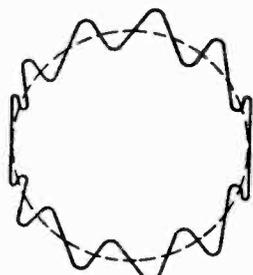
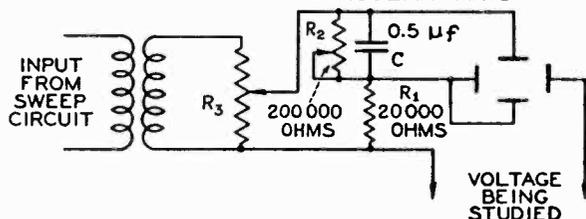

Figure 24
Figure 28
For an ellipse, a phase-splitting device as shown in Figure 28 is employed. Resistance (R_1) is connected across one set of deflecting plates and capacitance (C) is connected across the other pair. With R_1 at maximum resistance the phase shift is almost 90 degrees. As R_1 is decreased, the phase shift decreases. Figures 24 and 25 show the same single-line pattern and were obtained by adjusting the circuit of Figure 28 for different vertical amplitudes. Fig-
To produce the type of pattern shown in Figure 27, a circular axis is developed using the circuit of Figure 28, with the exception that the voltage under study is introduced in series with anode No. 2. It will be found that the peaks on this type of pattern will be somewhat blurred due to the defocusing effect caused by introduction of the voltage under study into the anode No. 2 circuit. Defocusing can be minimized by keeping this voltage at a low amplitude.